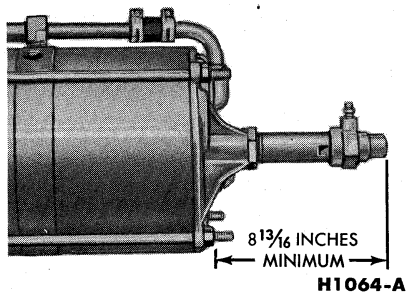

FIG. 50—Hydraulic Cylinder Adjustment
46. Carefully guide the hydraulic cylinder over the piston cup, and thread the cylinder into the end plate. Align the bleeder screw in the end cap with the bleeder screw in control valve. Adjust the hydraulic cylinder to a minimum of $8\frac{13}{16}$ inches (Fig. 50). Tighten the lock nut.